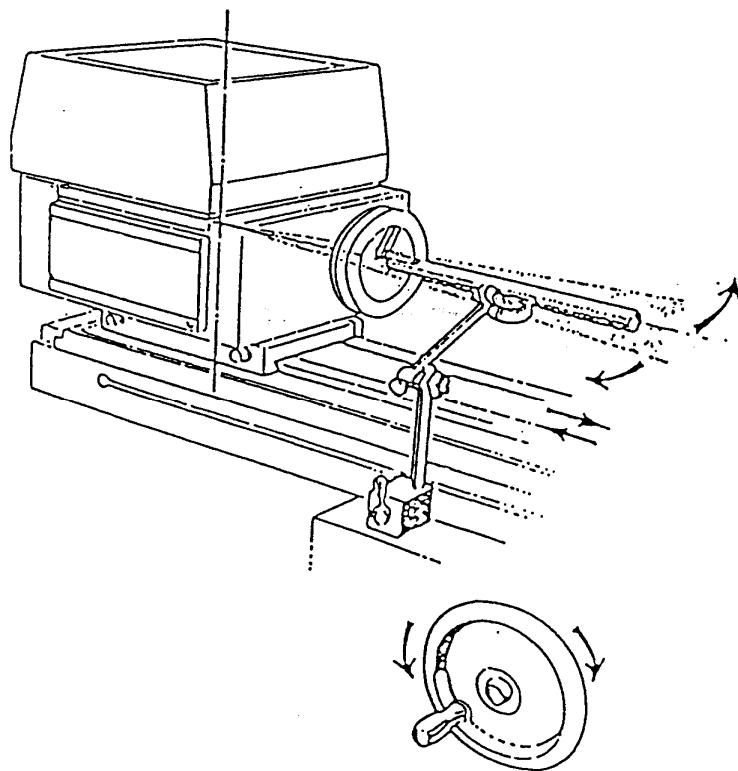

Fig.12-2
B. Alignment of workhead & tailstock (Fig. 12-2)